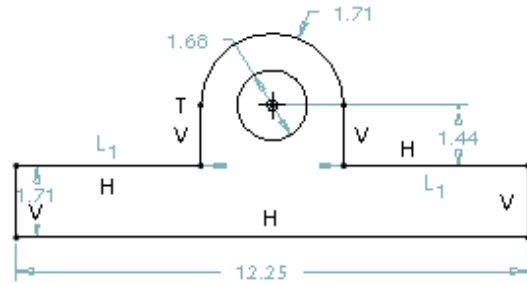

Figure 3-37 Sketch after drawing the arc and the circle
6. Click on the arc; a rubber-band circle appears. Size the circle by moving the cursor and click to complete it. The sketch after drawing the circle is shown in Figure 3-37.